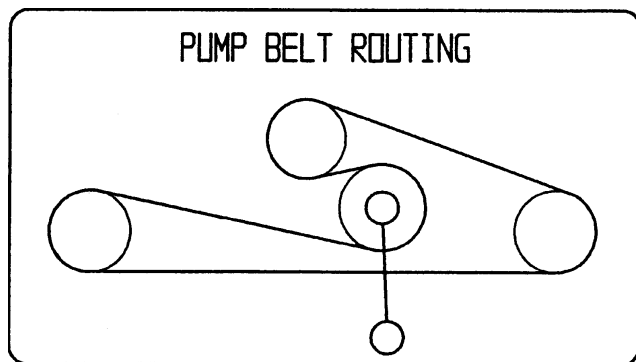

Figure 48
1. Pull spring loaded idler down and remove traction belt from the engine and hydro pump pulleys (Fig. 48). Remove belt between pulleys.
2. Install new belt around engine and hydro pump pulleys (Fig. 48).
3. Pull spring loaded idler down and align below traction belt. Release pressure on spring loaded idler (Fig. 48).